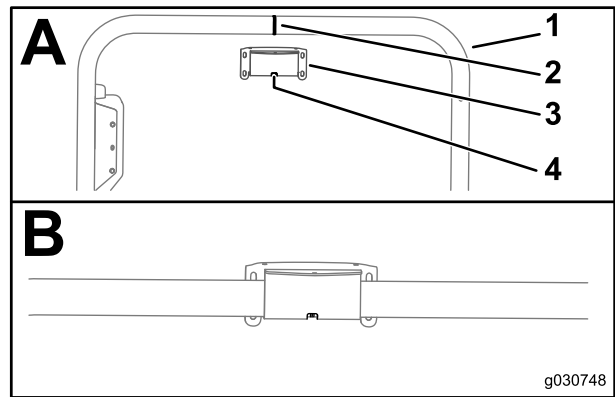

Figure 148
1. Align the slot that is in the center of the receiver mount with the weld seam at the centerline of the ROPS tube (Figure 148).